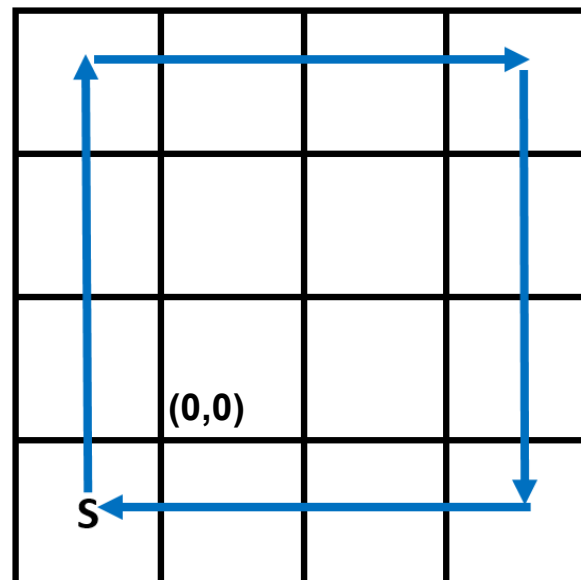

Figure 3. 3-by-3 tile trajectory using `SquareDriver`.
- The zero values for  $(X, Y)$ , i.e.  $(0,0)$ , must respect the convention shown in Figure 3.
The TA will ask you to run your robot off the center of a tile, as shown by **S** in Figure 3 (the exact X/Y placement is not critical, as the correction should compensate). The robot should then follow the 3-by-3 tile square trajectory using `SquareDriver`. The robot should work using odometry correction. Throughout the demo, the TA will observe the reported (**X**, **Y**, **θ**) values on the robot's LCD screen. When the robot stops at the final position (**XF**, **YF**) near **S**, the final readings on the LCD screen (**X**, **Y**, **θ**) are used to evaluate the odometers accuracy and calculate the **error distance ε** as:
3. Measure its resulting signed **XF** and **YF** position with respect to the origin **(0,0)** in Figure 3.